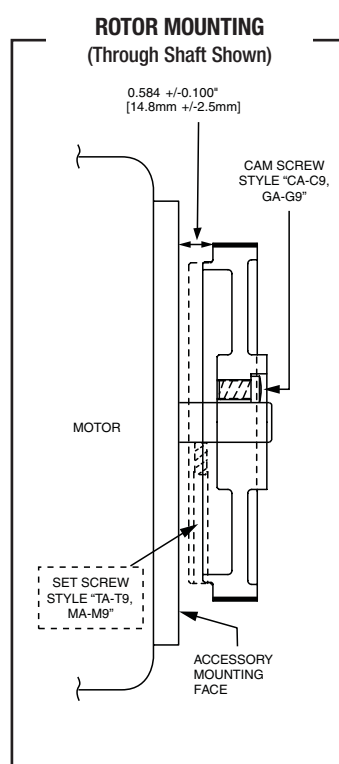
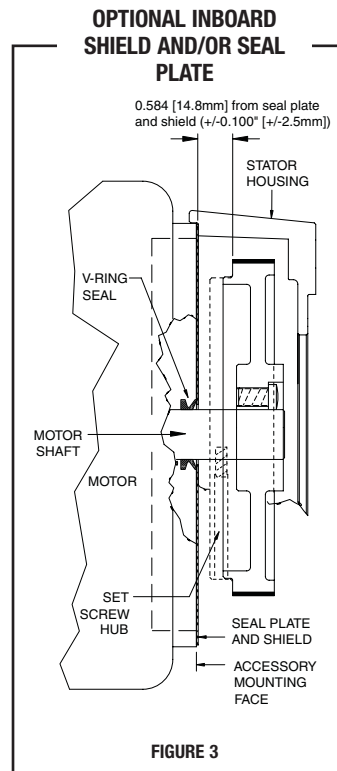
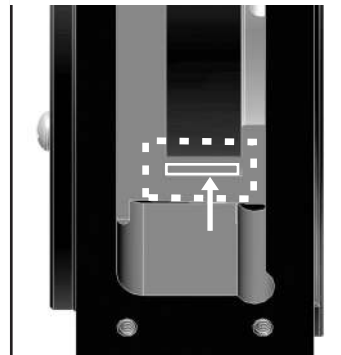

FIGURE 2
FIGURE 3
Figure 5
7. Mount rotor per instructions below, but increase axial position from motor to rotor to 0.620" [15.75mm] (from 0.584") to accommodate the inner seal plate thickness. See Figure 3.
See Figure 3.
4. Slide the rotor onto the stub shaft. The space between the mounting face and the magnetic strip of the rotor must be set to 0.584", as shown in Figure 2. Use Avtron gauges (A25355 or A35226) or use housing alignment grooves as shown in Figure 5 to verify position.
2. Slide the rotor on the shaft (option "B" or "T"), ensuring the rotor label "this side out" is away from the motor. The space between the mounting face and the rotor must be set to 0.584" [14.83mm], as shown in Figure 2. Use Avtron gauges (A35226 or A25355) or housing alignment grooves as shown in Figure 5 to verify position. (Note: if optional inboard seal or shield plate is used, gage the rotor location from the seal shield plates. See Figure 3.)
- 2a. If using a set screw rotor (TA-T6), apply threadlocker to the set screws (2) and tighten to 25 in-lbs.
2. Verify the rotor magnetic stripe is aligned with the grooves (see Figure 5).